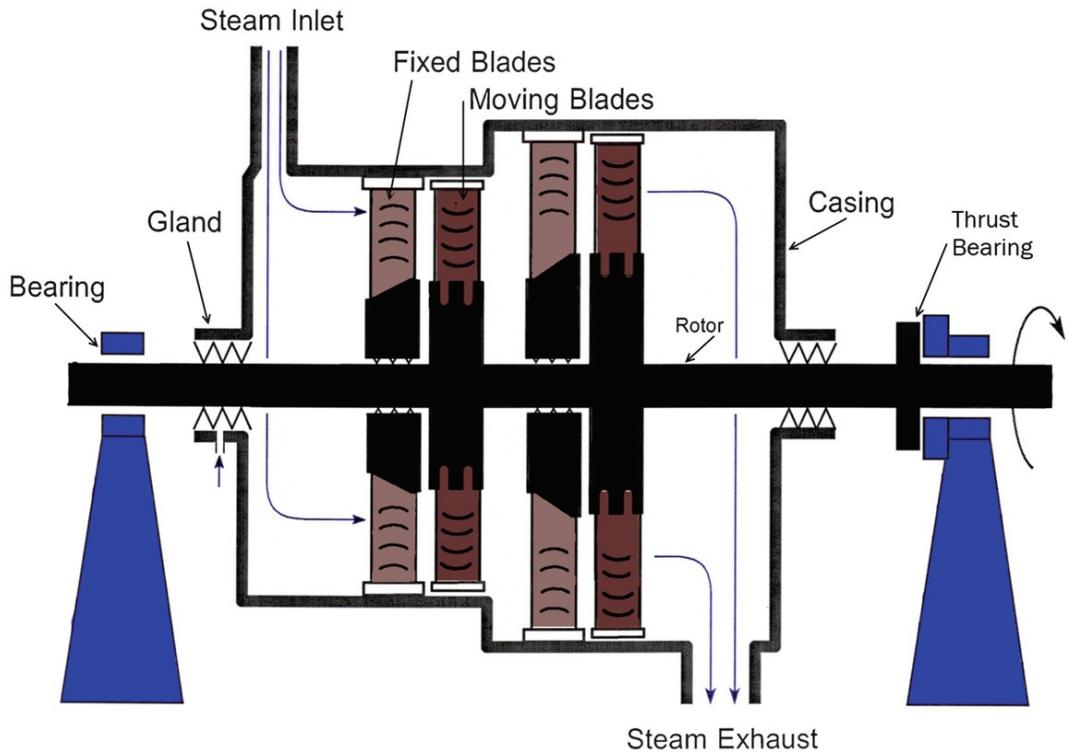

Fig. 10.4 Simple steam turbine
You've probably realised that there will need to be some kind of sealing arrangement around the shaft; otherwise the steam would escape without pushing on the blades. In Fig. 10.4, in common with most large turbines this sealing is provided by a 'gland' into which steam is supplied—some flows in, some out, sealing the turbine in the process (a bit like the seal injection flow supplied to your reactor coolant pump shafts).
Finally, it's worth noting that as the steam pushes on the blades to make the shaft spin, it also pushes along the shaft. You could build a turbine like the one shown in Fig. 10.4, but you'd need a substantial bearing behind the blades to absorb this lengthways thrust. Instead, a more typical design for powerful steam turbines is to have two sets of blades mounted opposite to each other. Unlike the turbine shown in Fig. 10.4, the steam would then enter at the middle and expand (push) in both directions, so balancing out the thrust. This is how your real 'High Pressure (HP) Turbine' is constructed.